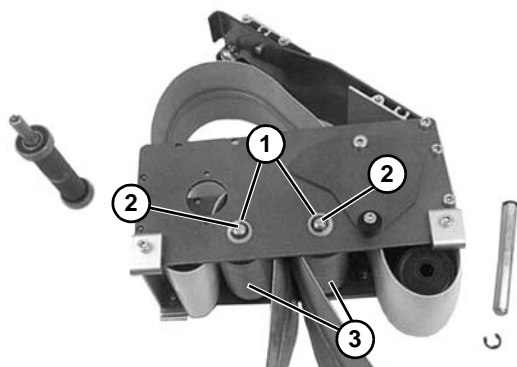

Figure 114
- a. For 2" (44 mm), 3" (70 mm) or 4" (95 mm) wide conveyor, remove E-ring clips and washers (**Figure 114, item 1**). Remove pulley shafts (**Figure 114, item 2**) and pulleys (**Figure 114, item 3**).